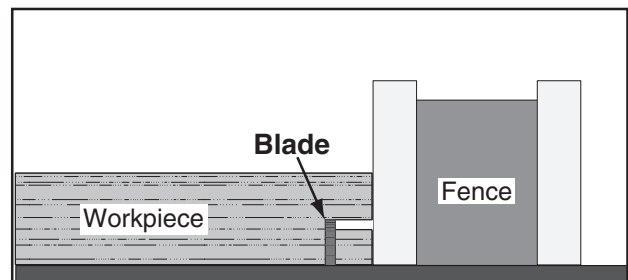

Figure 86. Second cut to create a rabbet.
7. Lay the workpiece flat on the table, as shown in **Figure 86**, adjust the saw blade height to intersect with the first cut, then perform the second cut to complete the rabbet.